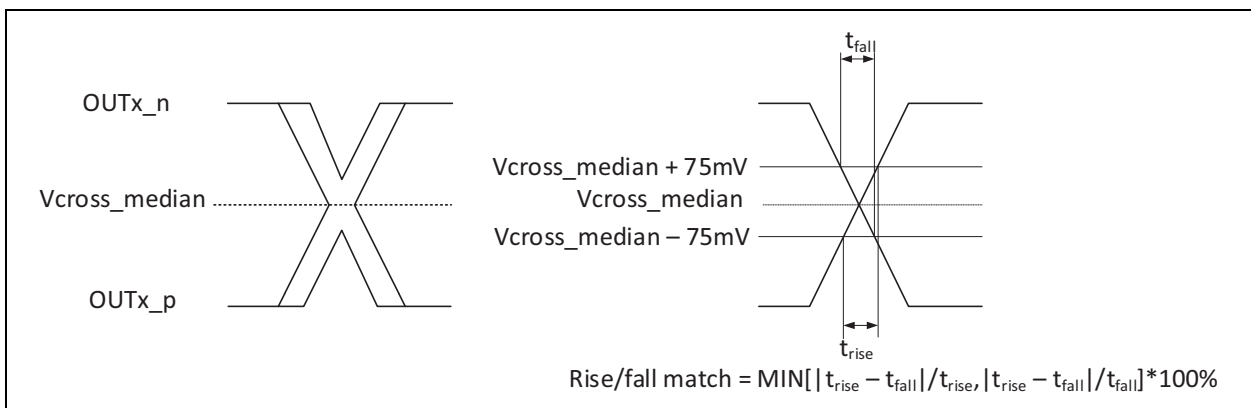

FIGURE 4-3: Single-Ended Measurement Points for Rise and Fall Time Matching.
- 11:** Matching applies to rising edge rate for CKx and falling edge rate for CK#x. It is measured using a ±75 mV window centered on the median cross point where CKx rising meets CK#x falling. The median cross point is used to calculate the voltage thresholds the oscilloscope is to use for the edge rate calculations. The Rise Edge Rate of CKx should be compared to the Fall Edge Rate of CK#x the maximum allowed difference should not exceed 20% of the slowest edge rate. See Figure 4-3.